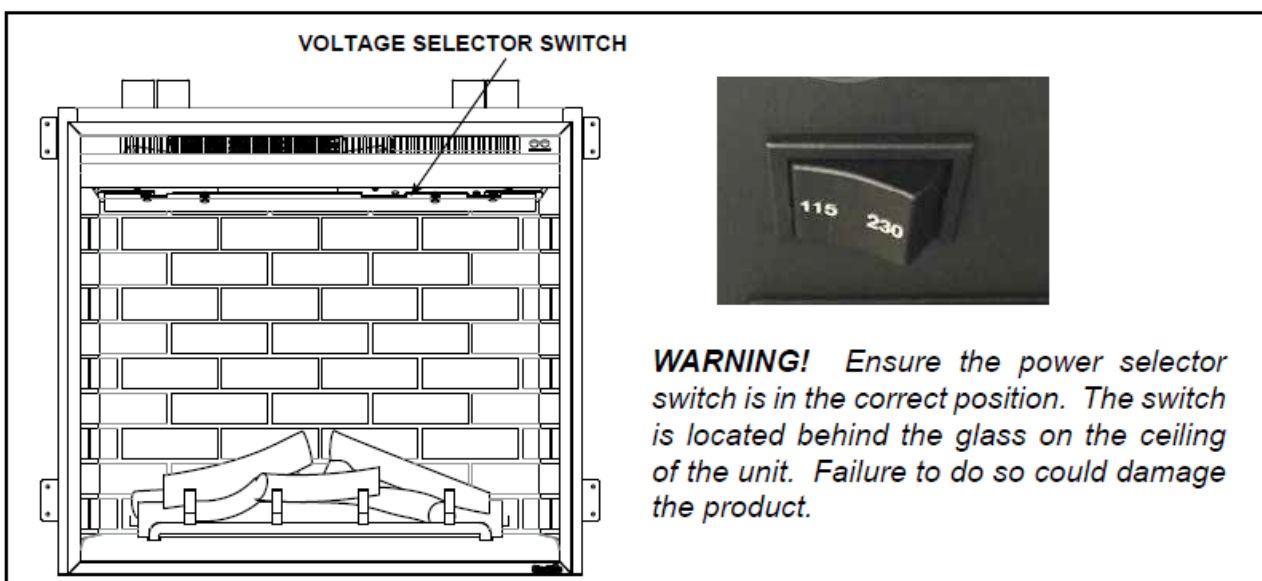

Figure 4.7 Voltage Selector Switch
5. Inspect that the correct voltage is selected on the selector switch located behind the glass on the ceiling of the unit. Failure to do so could damage the product. See Figure 4.7.
4. Inspect that the correct voltage is selected on the selector switch located behind the glass on the ceiling of the unit. Failure to do so could damage the product. See Figure 4.7.